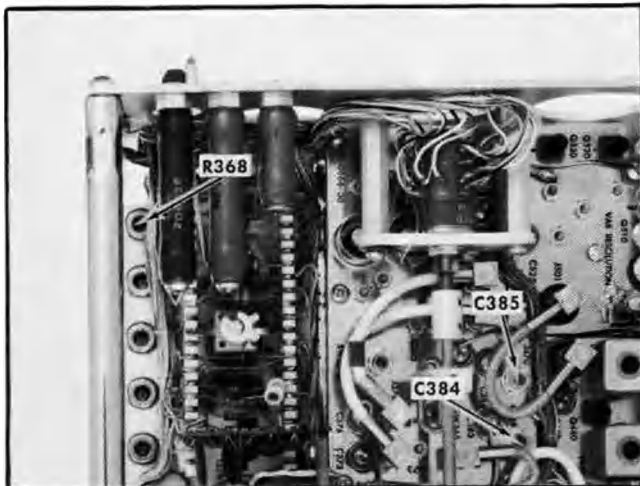
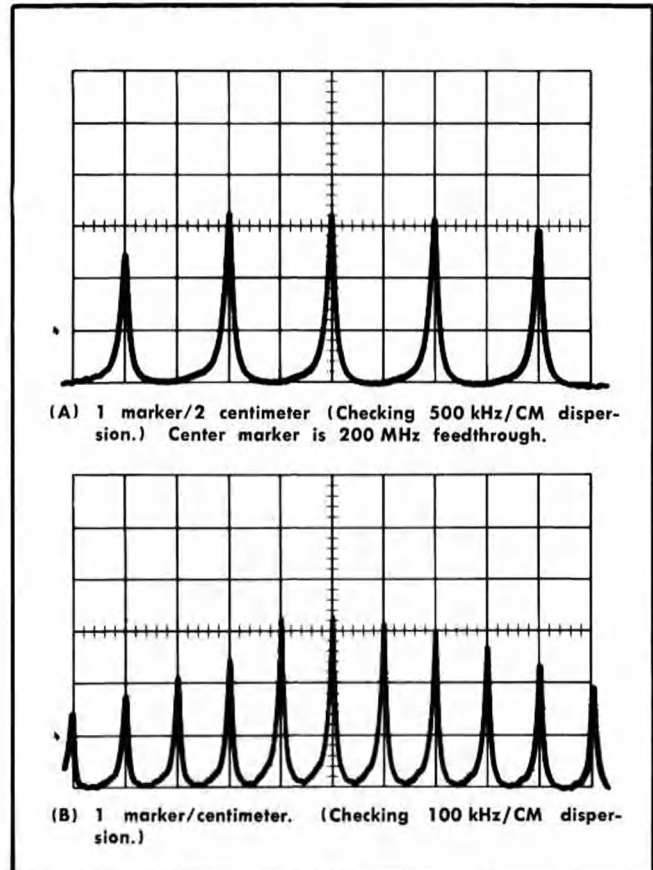

Fig. 5-12. Location of kHz/CM dispersion adjustments.
Fig. 5-13. Typical displays when checking or adjusting kHz/CM dispersion.
d. ADJUST—C384 and C385 (Fig. 5-12) for 1 marker/2 centimeters (Fig. 5-13). Adjust these capacitors simultaneously in opposite directions. This will keep the 200 MHz feed-through signal centered in the graticule area.
e. ADJUST—the kHz/Cm Cal R368 (Fig. 5-12) for optimum dispersion linearity. See Fig. 5-13.